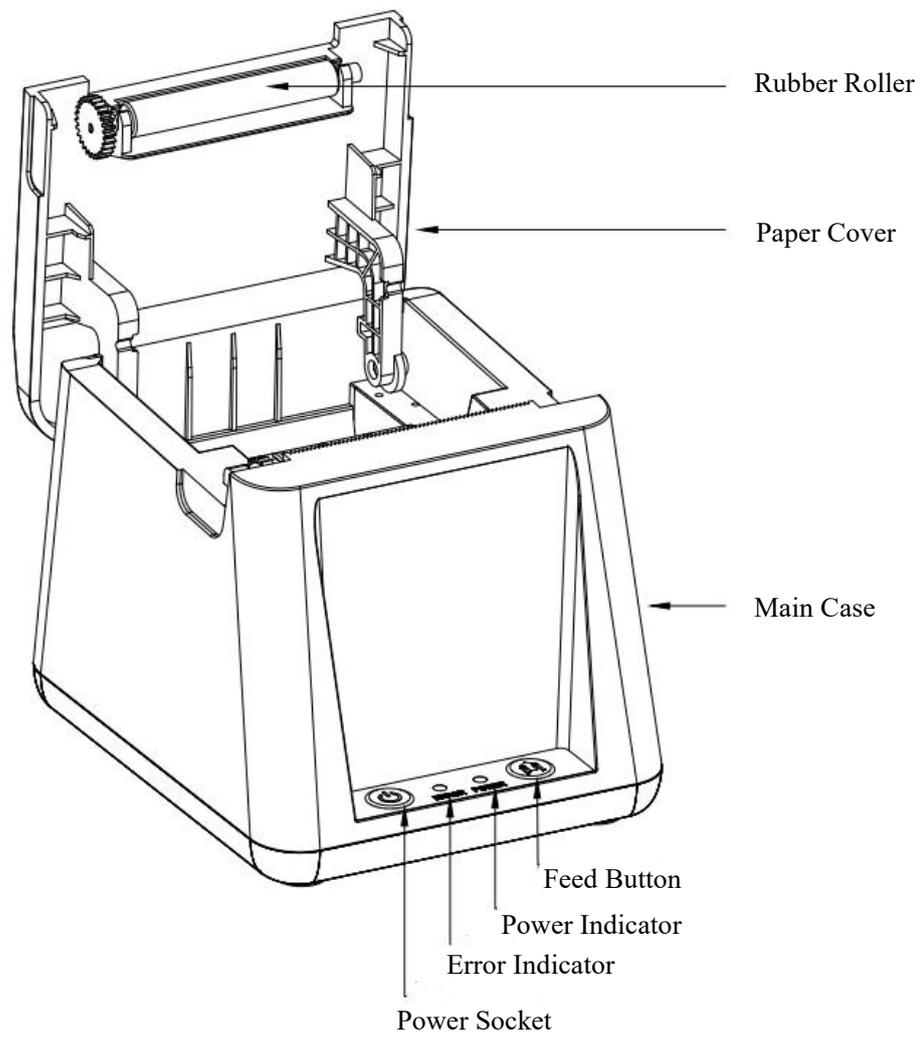
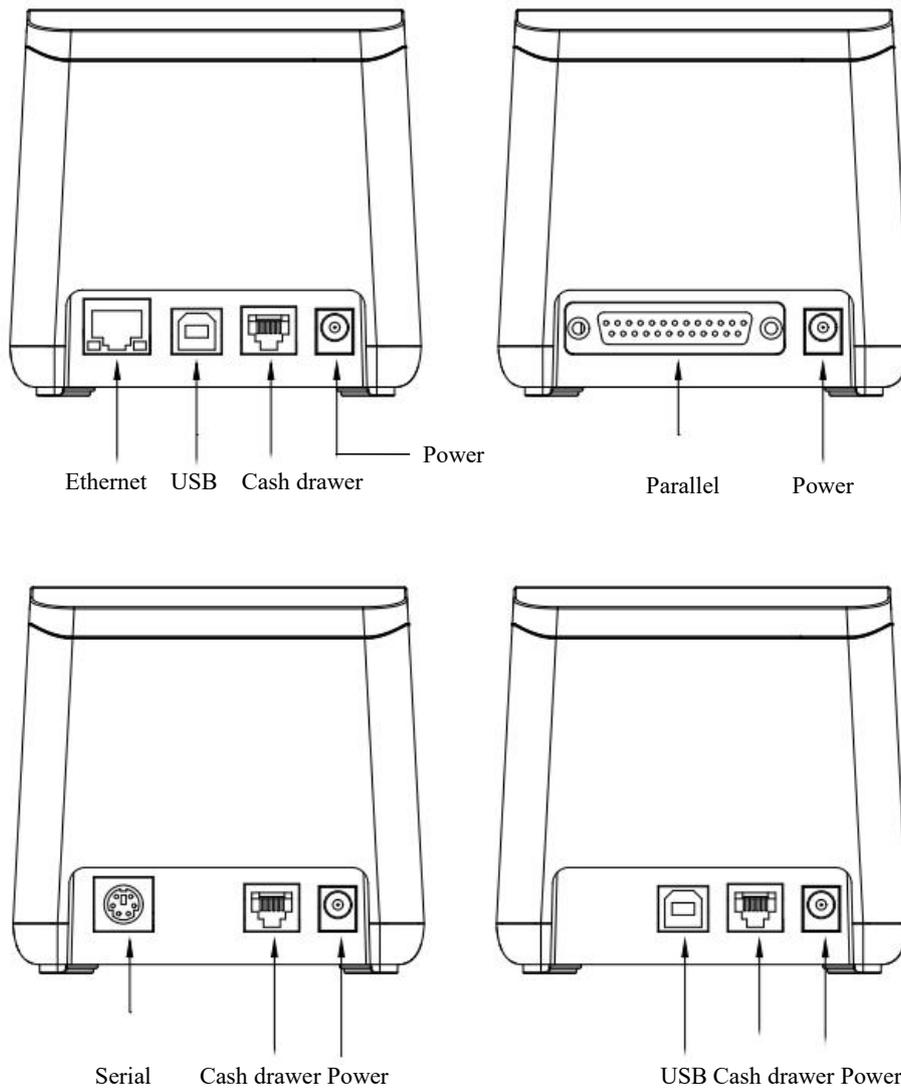

Figure 2-1-1
Figure 2-1-2
Printer appearance As shown in Figure 2-1-1, Figure 2-1-2.
1. When there is no paper in the print head, please do not press the feed button  to avoid affecting the life of the print head. As shown in Figure 2-1-1, hold the paper cover and pull it upward to open the door and change paper.